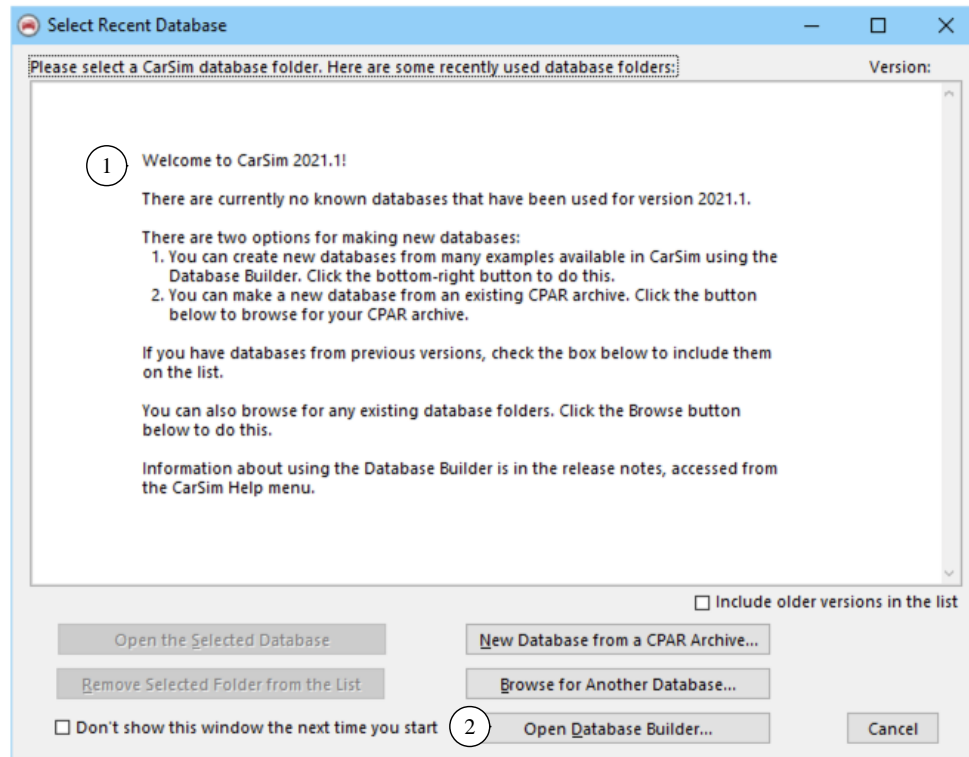

Figure 1. The Select Recent Database window the first time the software is launched.
The first time you start a new version of CarSim or TruckSim, the window **Select Recent Databases** will appear (Figure 1) with an introductory message ①. (If any databases have already been built and/or converted from older versions, they will appear in a list instead of the message.)